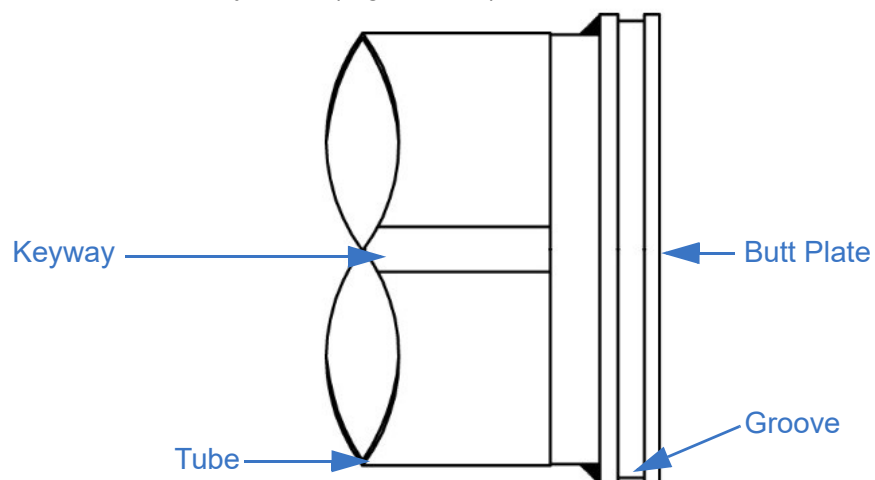

Figure 8-11 Tube and Butt Plate
1. Check the butt plate for any burrs (Figure 8-11).